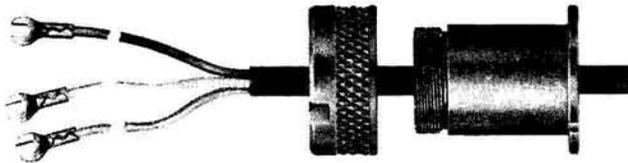

Fig. 4 — Sleeve Bushing on F6AR Handset
*Explosion-proof handsets, F6AR, F6BR, and F6CR handsets, are listed by the UNDERWRITERS LABORATORIES, INC. for use with telephone sets for hazardous locations. Handset cord is attached to telephone set by means of a bushing designed to confine any possible burning gases to interior of telephone set. (See Fig. 4 and 5.) The F6AR and F6CR handsets are not interchangeable with the F6BR. At least five threads of the threaded bushing must engage threads in housing. Each F6AR, F6BR, and F6CR handset with cord and bushing is a factory assembled unit. If any part except the transmitter and receiver cap requires replacement, REPLACE ENTIRE HANDSET ASSEMBLY. Review section on explosive atmospheres before doing any work involving these handsets.*